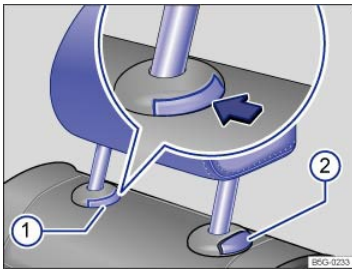

Fig. 82 Removing the rear center head restraint.
- Push button ⇒ Fig. 82① in the direction of the arrow and hold it in this position.
- At the same time press button ② while a second person pulls out the head restraint completely.
- Push the head restraint down while pressing button ⇒ Fig. 82②.